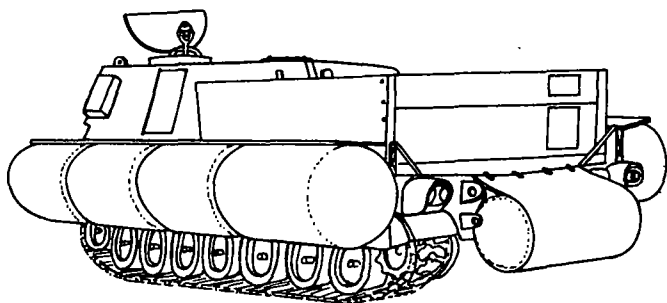

Figure 9. Howitzer prepared for amphibious operation.
- (1) Dispersing ammunition in small stacks.
- (2) Store ammunition in trenches and dug-outs.
- (3) Insure that each stack of ammunition does not contain more than 75 rounds, is not more than four layers high.
- (4) Placing stacks of ammunition at least 10 meters apart.
a. General. The howitzer can be equipped with a flotation device which will enable the vehicle to navigate rivers, lakes, and other water obstacles (fig. 9).
- (1) *Bags.* Four bag-retainer assemblies will be installed on each side of the vehicle, and one bag on the front of the vehicle.
- (2) *Water barriers.* Barriers will be installed on each forward side and across the front of the vehicle to reduce water seepage to the power plant compartment.
- (3) *Auxiliary equipment.* Auxiliary equipment includes the necessary valves, blowers, hoses, and fittings to inflate the bags.